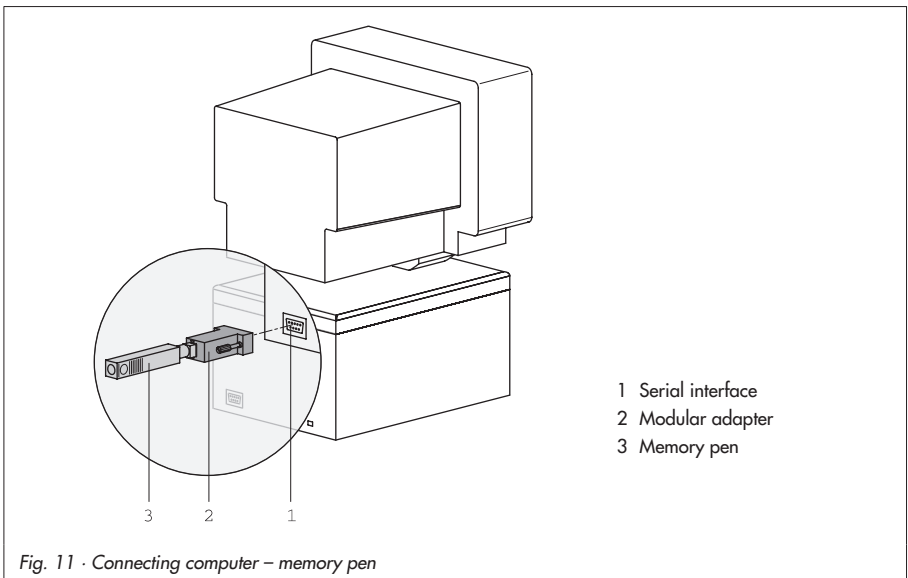

Fig. 11 · Connecting computer – memory pen
1. Plug memory pen (3) together with modular adapter (2) into the serial interface (COM port) of the computer (Fig. 11).